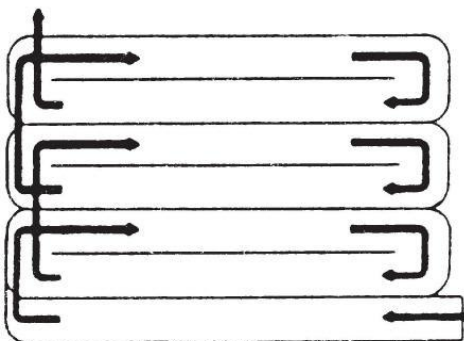

Figure 18
- In compacted soil or sod, or in food plot and sod busting applications, several passes may be necessary to till to a depth of seven (7) inches. For the first pass, just scratch the surface. The depth for each successive pass needs to be determined by individual site and soil conditions. If the machine stalls repeatedly, you should till slower or not as deep.
- Where possible, we recommend that you till in a pattern similar to that shown in **Figure 18**.